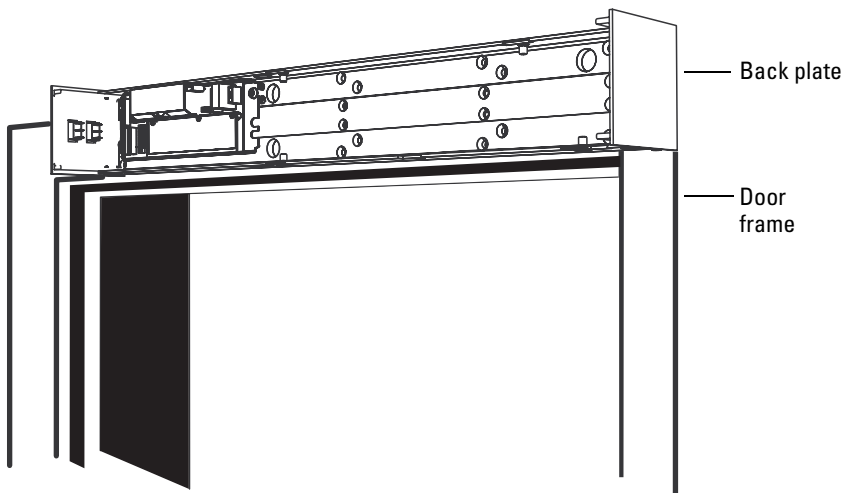

Figure 1.14 Mounting the back plate to the frame
13. Mount back plate to the door frame using at least six 1/4-20 screws. See Figure 1.14 on page 1-15.